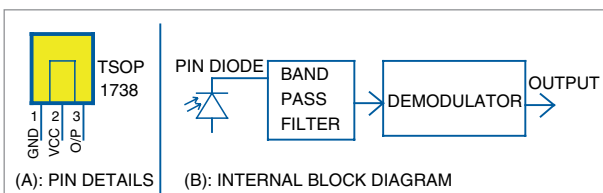

Fig. 4: Block diagram of TSOP1738
The circuit operates as a proximity sensor and detects nearby objects without any physical contact. When you place your hand or finger near infrared (IR) LED IRTX1, its IR light is reflected back and received by the nearby placed TSOP1738 sensor (IRRX1). As shown in block diagram of the sensor in Fig. 4, it has a PIN diode, pre-amplifier, band-pass filter, and demodulator. The epoxy package is designed as an IR filter.